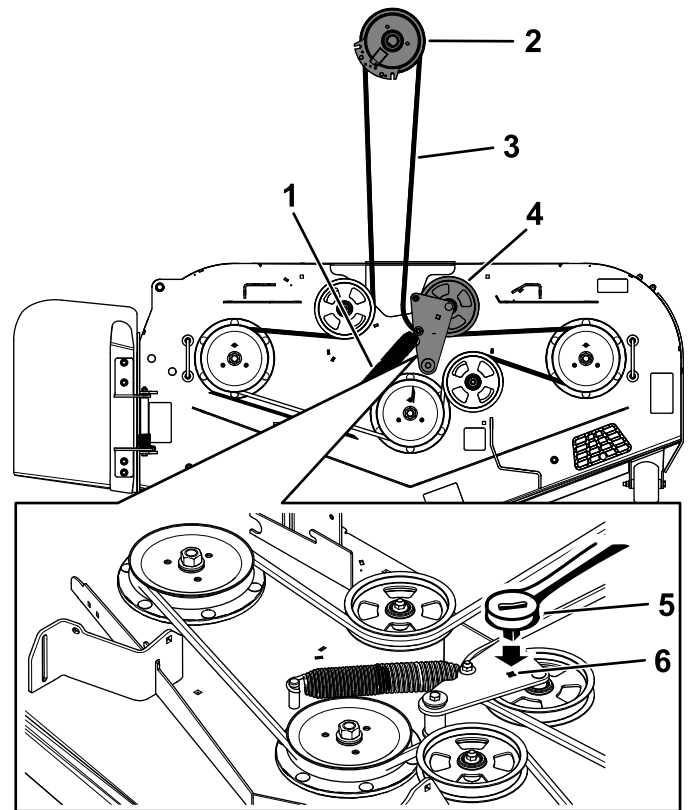

Figure 74
5. Use a 3/8-inch ratchet in the square hole in the idler arm to remove tension on the idler spring (Figure 74).
7. Remove the belt guide on the spring-loaded idler arm (Figure 74).
9. Install the new belt around the mower pulleys and the clutch pulley under the engine (Figure 74).
10. Install the belt guide on the idler arm (Figure 74).
11. Using the 3/8-inch ratchet in the square hole, install the idler spring (Figure 74).